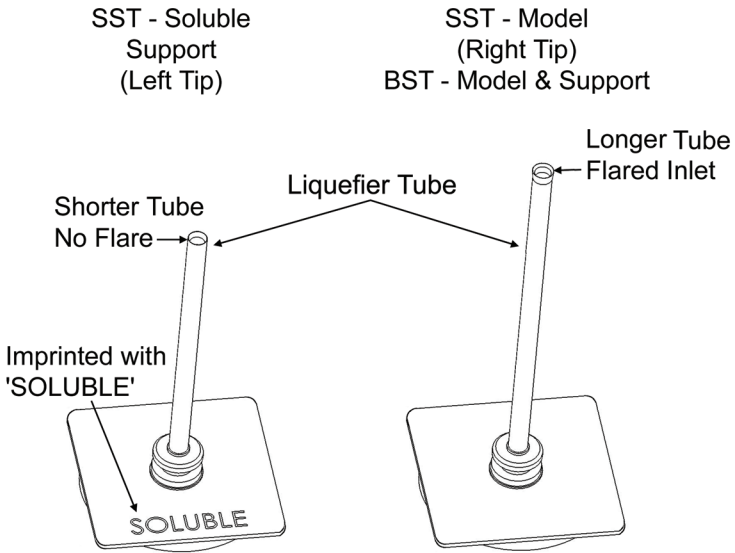

Figure 21: Identifying Tips
2. For a Dimension 1200es BST, the SUPPORT tip and MODEL tip are interchangeable. Both tips are the same as the MODEL tip shown in Figure 21 on page 53. (The tips come in a Red capped container).
3. For a Dimension 1200es SST, you must identify the correct replacement tip. The SST uses two tip types. You must make sure a SUPPORT tip is used on the LEFT side of the head assembly. A MODEL tip must be used on the RIGHT side of the head assembly (See Figure 21 on page 53). The Model tip comes in a Red capped container. The Support tip comes in a Black capped container.